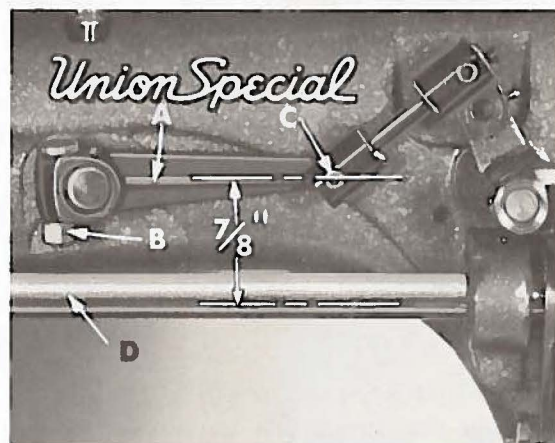

Fig. 6
Turn handwheel in the operating direction until the needle bar is at the bottom of its stroke. While holding the handwheel, position the upper feed lift driving lever (A, Fig. 6) after loosening nut (B) so the distance between the centerline of the link pin (C) and the centerline of the upper feed drive rock shaft (D) is $7/8$ inch (Fig. 6). Retighten nut (B).